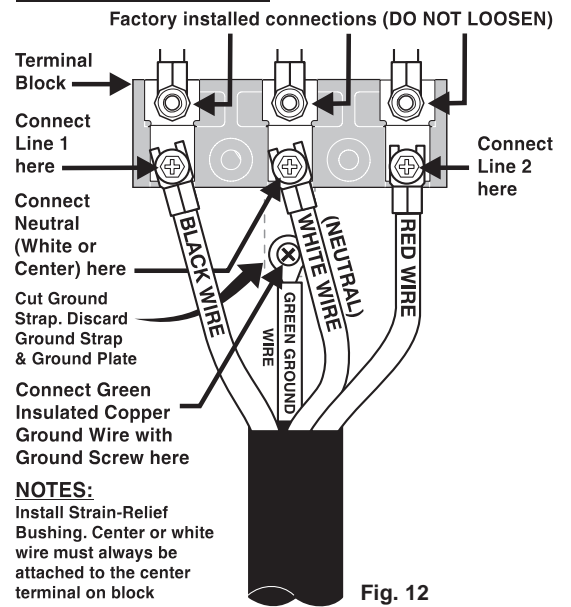

Fig. 12
### (4-Wire Connection Instructions - Refer to Fig.12)
4. Connect the ground wire (Green) lead with the eyelet to the frame of the appliance with the ground screw using the same hole in the frame where the ground screw was originally installed (See Fig. 12).